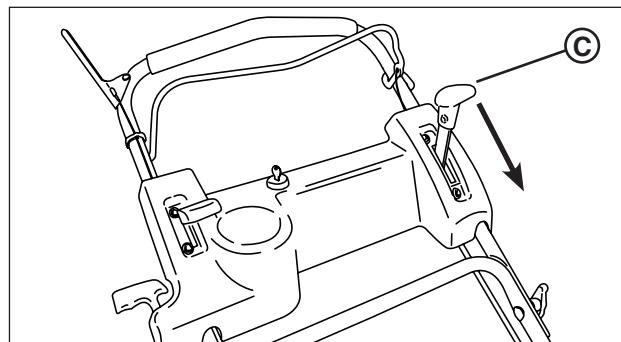

Figure 26: The ground speed control
1. Move the ground speed control (**A**, Figure 26) into the 'fast' position.